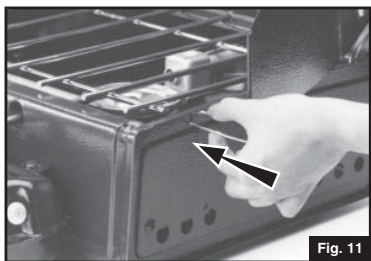

Fig. 11
- Swing WIND BAFFLES out and insert the WIRE CLIPS into slots in ends of stove. (Fig. 11)